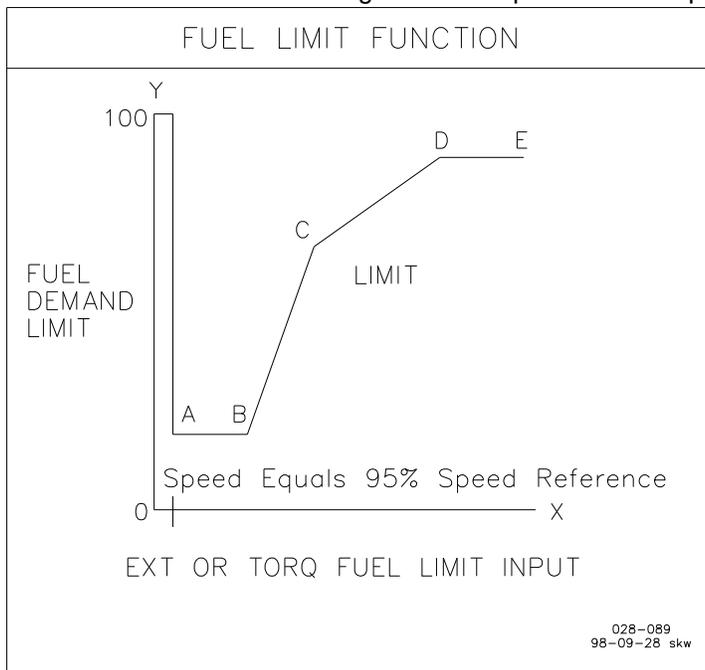

Figure 3-8. Torque Limit Curve
A five-point curve is constructed using the engine manufacturers recommended settings for EXT FUEL LMT versus Fuel Demand. Refer to Figure 3-8. The 'X' values are the Breakpoints and the 'Y' values are the Fuel Limit at the Breakpoints. All values between the designated breakpoints are interpolated.
2. **EXT LIMIT BRKPNT X** is the External Fuel Limiter value that designates that particular breakpoint (x-axis input in Figure 3-8).
3. **FUEL LIMIT @ BRKPNT X** is the percent fuel demand allowed when the External Fuel Limiter input is at that respective Breakpoint (y-axis output in Figure 3-8).